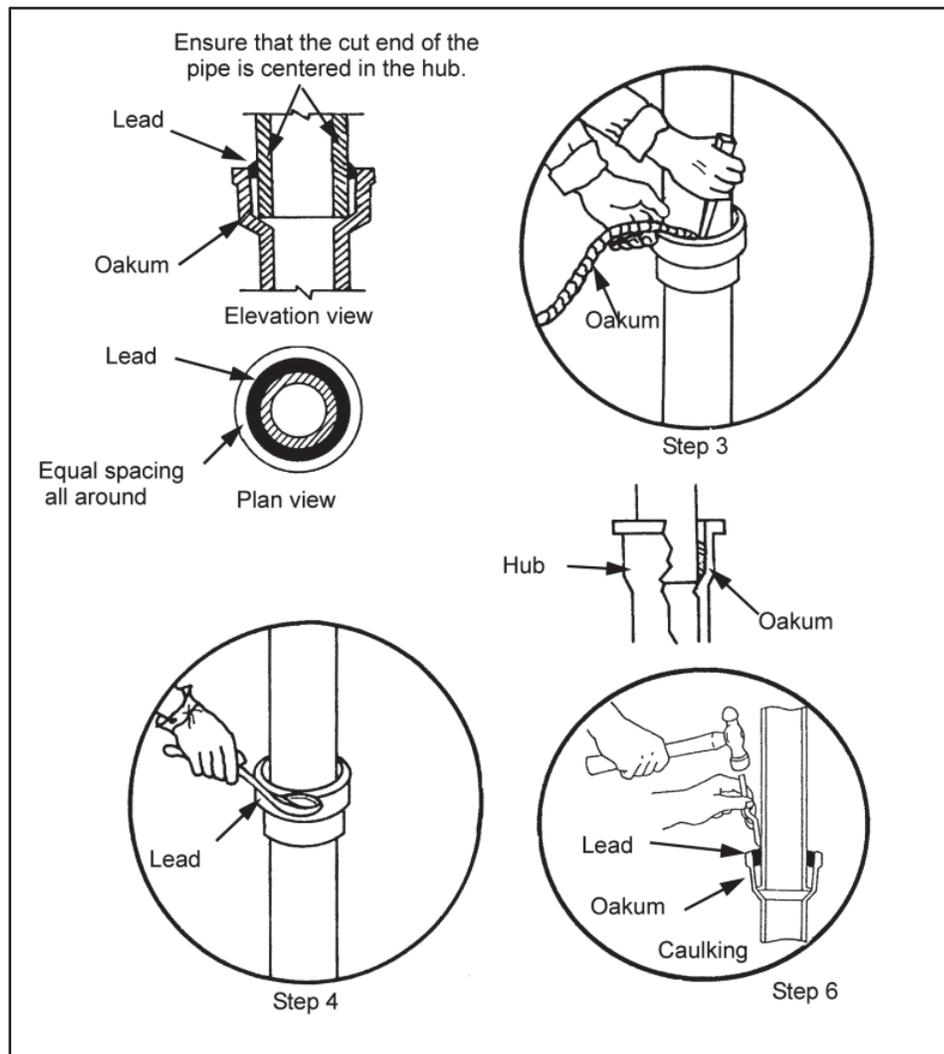

Figure 6-17. Vertical lead joint
6-42. **Vertical Lead Joint.** Use figure 6-17 and the following steps to make a joint.
- Step 3.** Pack strands of oakum into the hub completely around the pipe or fitting with a packing iron to within 1 inch of the hub's end (figure 6-17).
- Step 4.** Pour hot molten lead carefully into the hub in one pour, using a plumber's ladle (figure 6-17).
Step 6. Caulk the lead against the pipe with the inside caulking iron and then against the hub with the outside caulking iron, as shown in figure 6-17, page 6-15. The joint is then complete and leakproof.